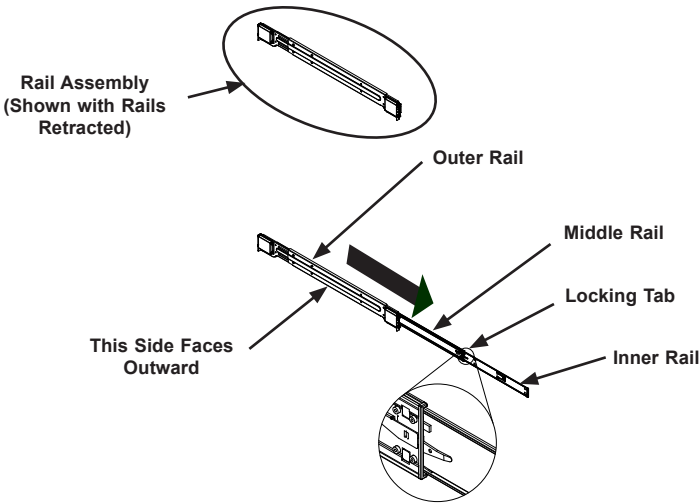

Figure 6-1. Identifying the Outer Rail, Middle Rail and Inner Rails (Left Rail Assembly Shown)
1. Identify the left and right outer rail assemblies as described in Figure 6-1.
1. Identify the left and right inner rails as described in Figure 6-1..